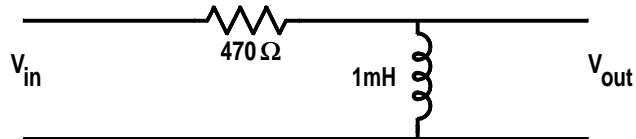

Figure 16.8: Problem 16.4.
16.4 Construct the Bode plot for the circuit shown in Figure 16.8.